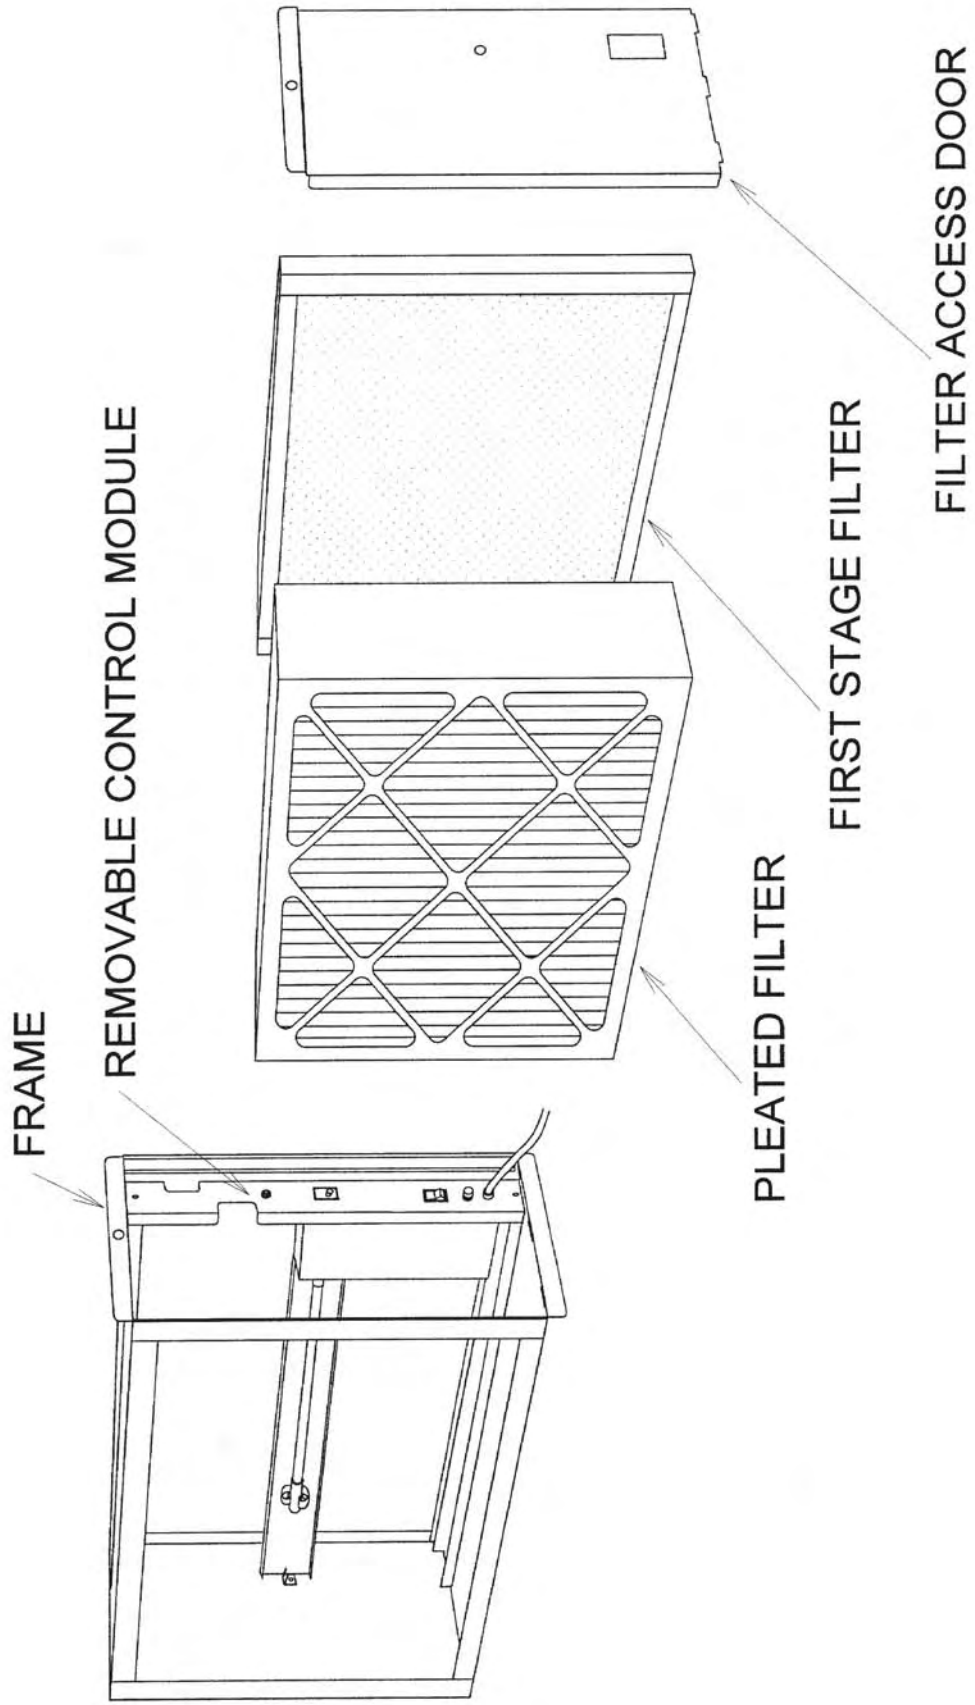

FIGURE B-1 TRANSITIONS
- **Transitions** are required when the CAP50 or CAP100 frame and return air duct are of different dimensions. To minimize air turbulence and maximize efficiency, the transition fittings on each side of the frame should not provide more than 20° of expansion. **Refer to Figure B-1.**